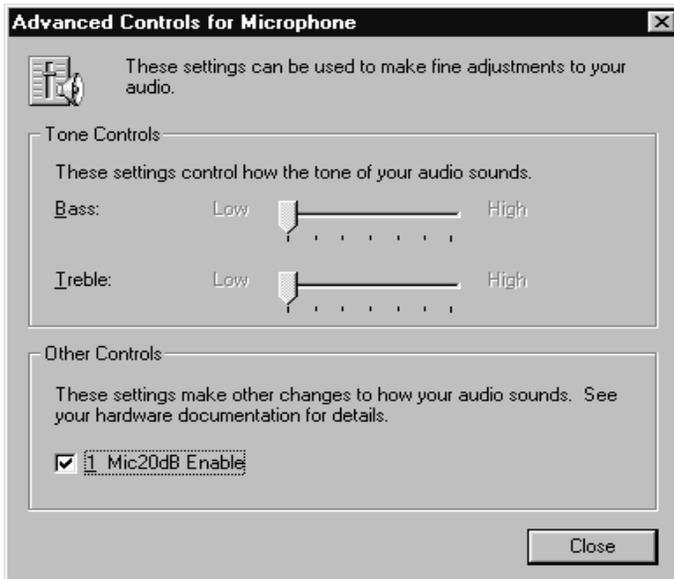

Figure 3-3. The Advance Controls for Microphone Windows.
- 5) The Advanced Control for Microphone window will now appear as shown in Figure 3-3 below. Adjust the Bass and Treble as desired by dragging the slide-bar horizontally. If you wish to enable the Mic20dB setting for your microphone, then click on **Mic20dB Enable**.